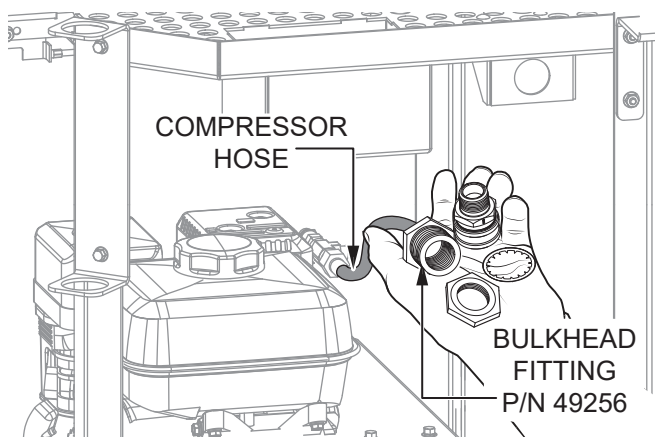

Figure 14. Compressor Adaptor Components
1. Remove and disassemble the compressor adaptor components located at the end of the compressor hose (Figure 14). Leave the bulkhead fitting (P/N 49256) connected to the hose as shown.